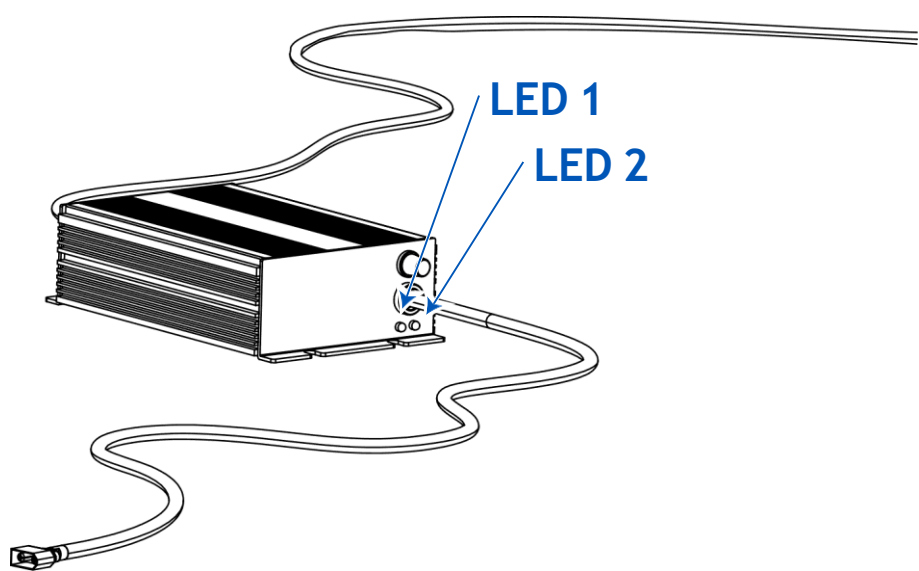

Fig. 35
- 1. The charger cable must be plugged into the household mains (Figure 34a). At this point, LED 1 on the charger will be red and LED 2 will be green (Figure 35).